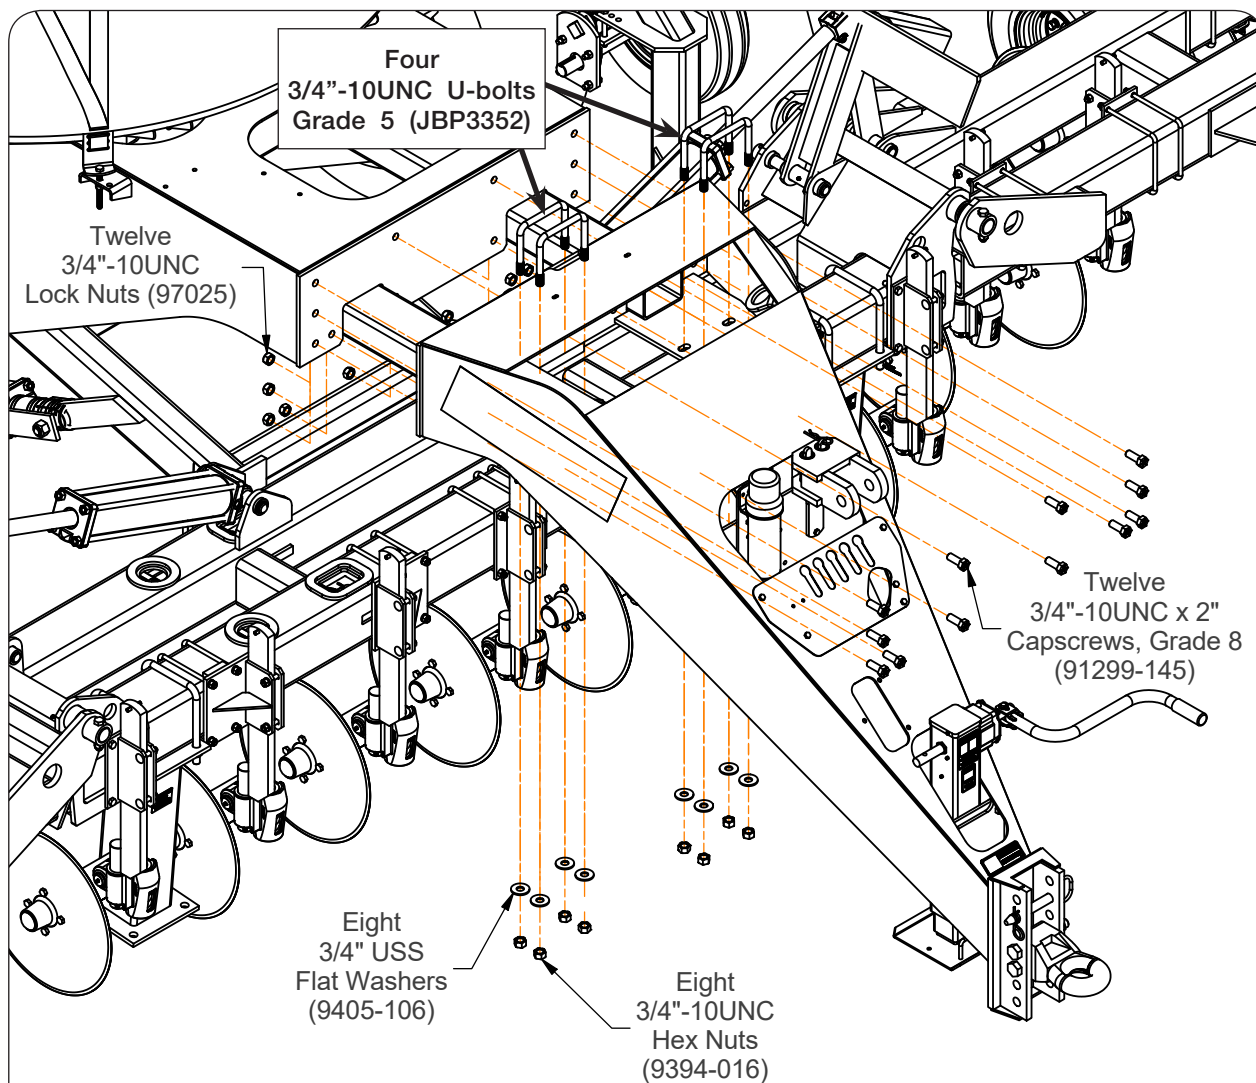

FIG. 2-1
1. Remove the twelve 3/4"-10UNC x 2" capscrows, grade 8 (91299-145), twelve 3/4"-10UNC lock nuts (97025), four 3/4"-10UNC x 5 11/16" U-bolts, grade 5 (JBP3352), eight 3/4" USS flat washers (9405-106), and eight 3/4"-10UNC hex nuts (9394-016) from the tongue assembly. (FIG. 2-1)
2. Using a safe lifting device rated at a minimum of 1,000 lbs., support the tongue assembly. Attach the tongue assembly to main frame with twelve 3/4"-10UNC x 2" capscrows, grade 8 (91299-145), twelve 3/4"-10UNC lock nuts (97025), four 3/4"-10UNC x 5 11/16" U-bolts, grade 5 (JBP3352), eight 3/4" USS flat washers (9405-106), and eight 3/4"-10UNC hex nuts (9394-016) (FIG. 2-1). Torque hardware according to "Torque Chart" in MAINTENANCE section.